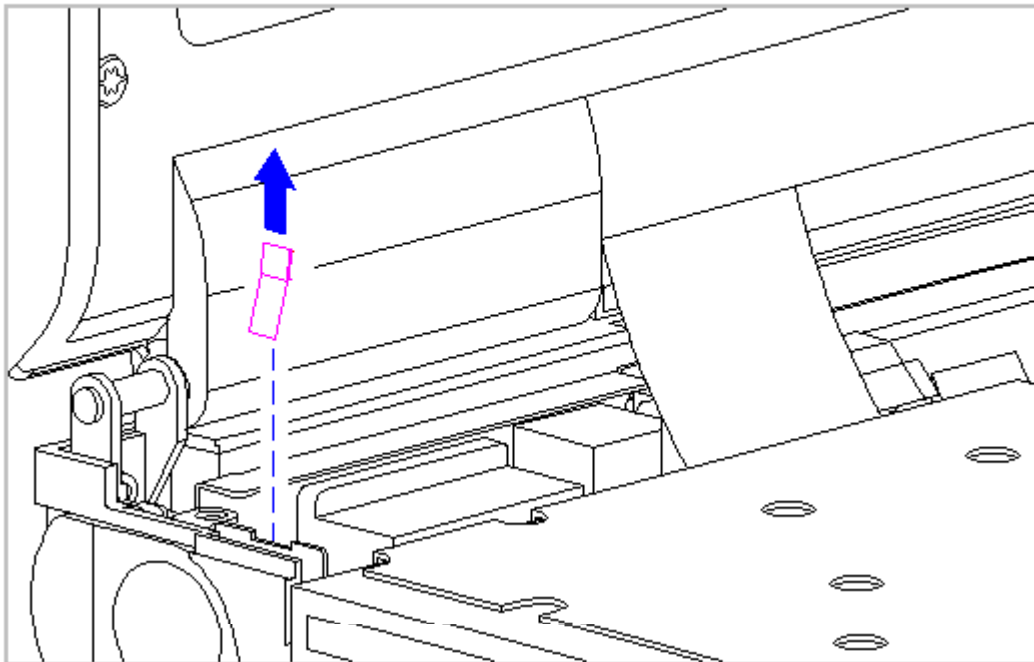

Figure 5-124. Removing the Left Clutch Ground Clip
3. Remove the left clutch ground clip from the system chassis (Figure 5-124).